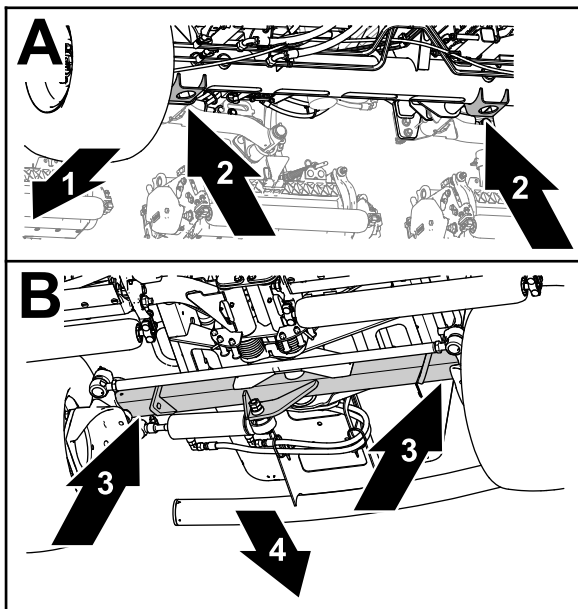

Figure 100
- Front—the jack brackets of the front-axle tube (Figure 100).